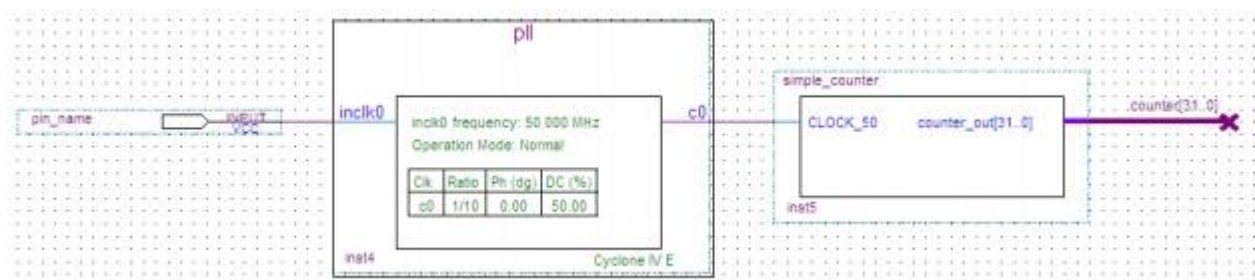

Figure 3-18 Connecting the PLL symbol and Input port
- Use the mouse to click and drag the new input pin to the left; notice that the ports remain connected as shown in Figure 3-18.